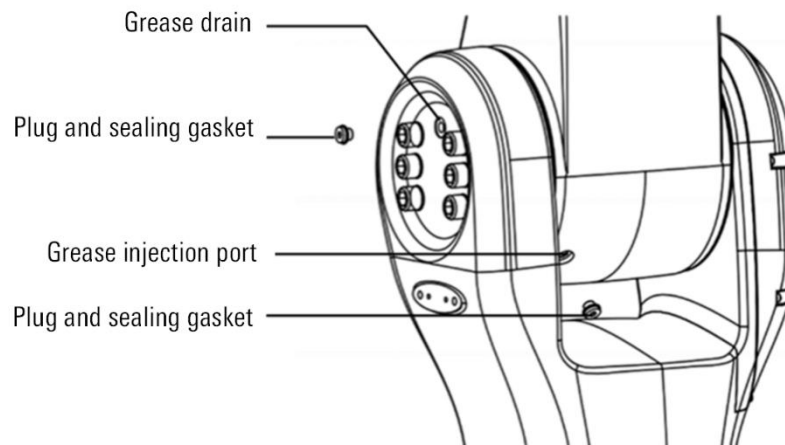

Figure 12-5 Replace J2 axis reducer grease
- Step4. Remove the grease outlet M10x1 plug, as shown in Figure 12-5.